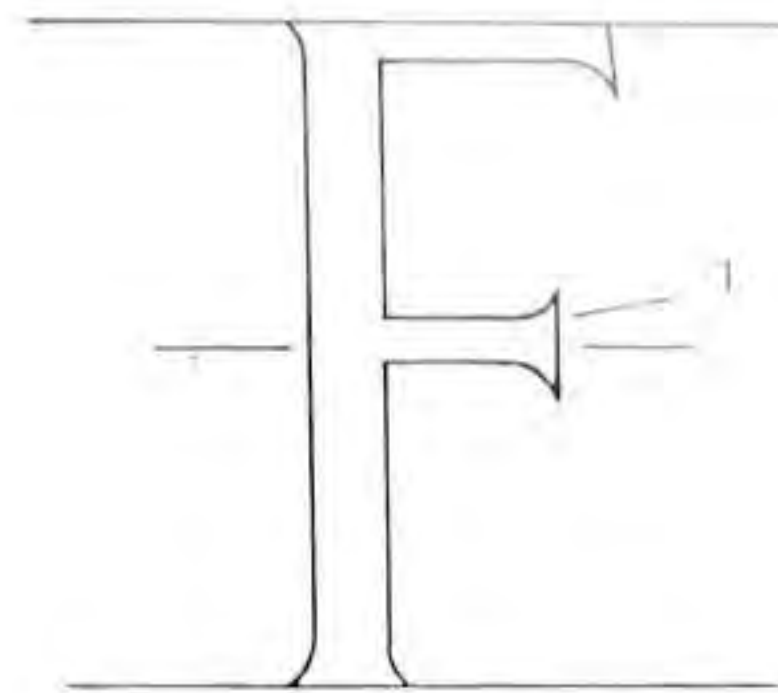

Fig 6.7 Features of the letter F.
See Fig 6.7. This letter is essentially the upper part of E, which it should resemble in terms of arm lengths. The lower arm looks better left at the mid-line, as there is plenty of space below, unless it is next to an E, in which case an echo of the E form is preferable (1), so that the lower arm of F is at the same level as the mid-arm of E.